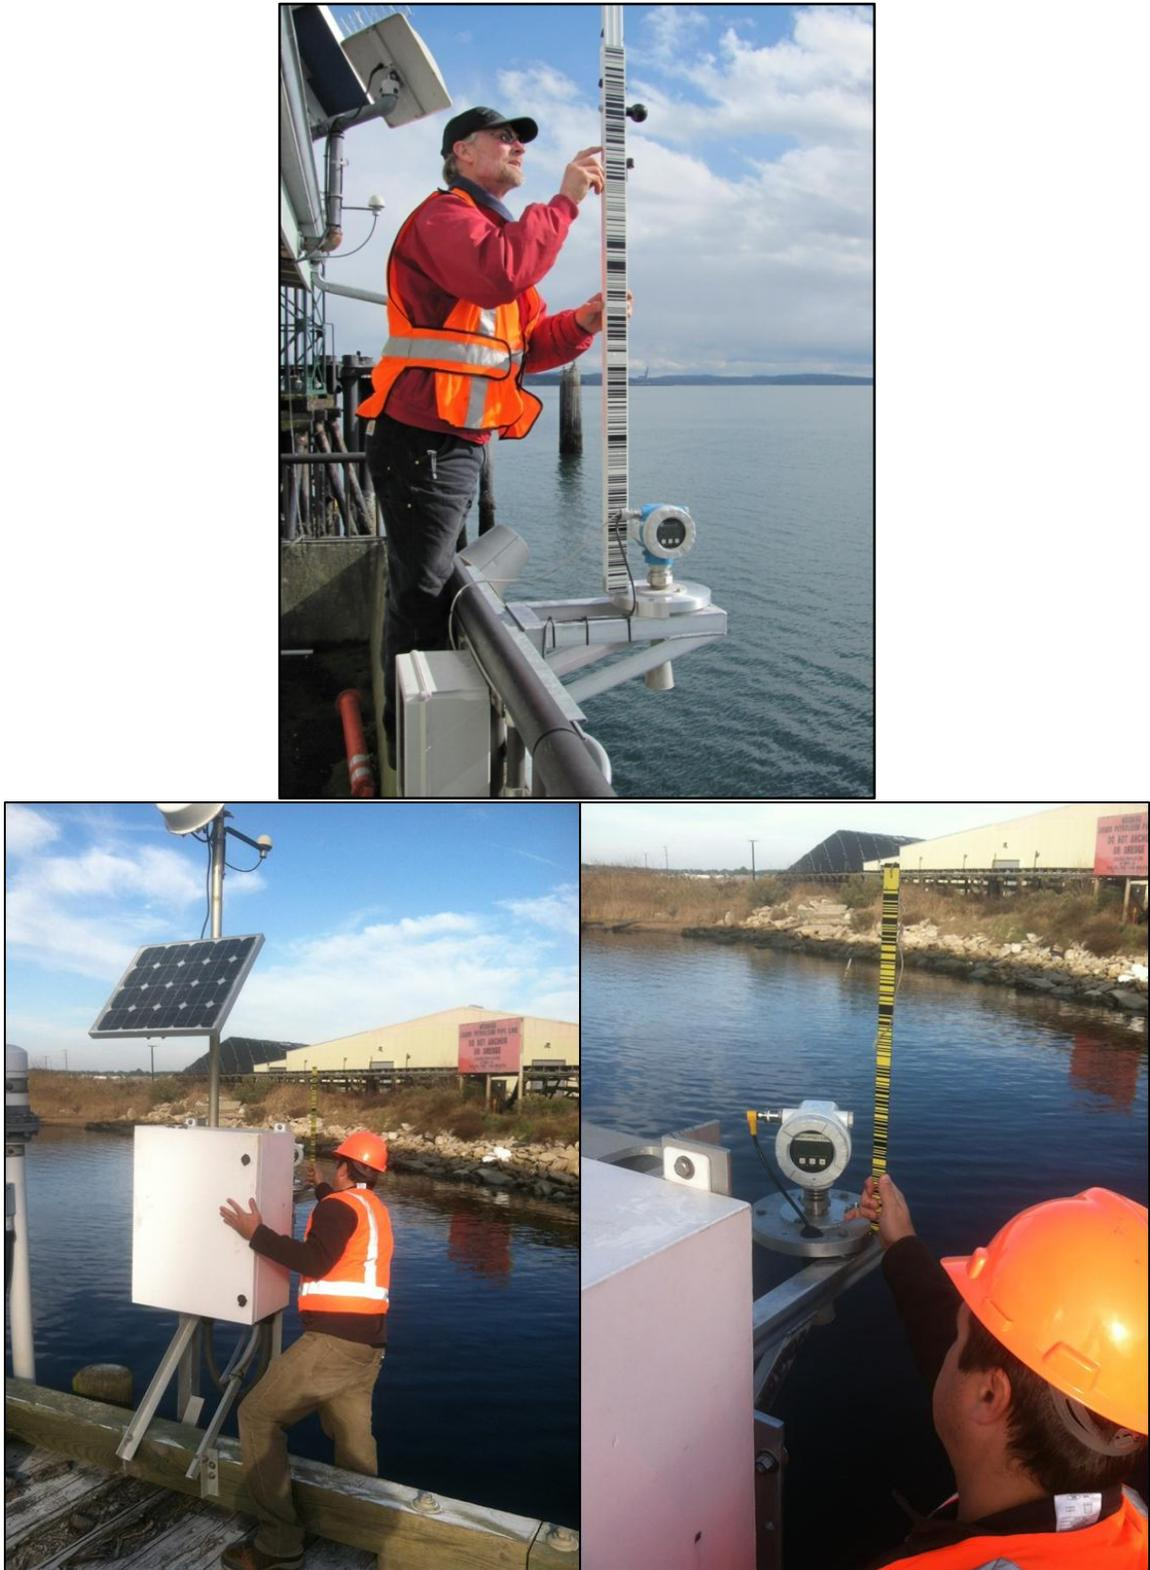

Figure 3-9. Examples of geodetic level conducted with leveling point atop the collar surface.
6. After sensor is installed in the collar on the mount, conduct geodetic leveling to measure a vertical datum offset to the mark specifying the leveling point atop the collar surface (fig. 3-5 [f]) (fig. 3-9).